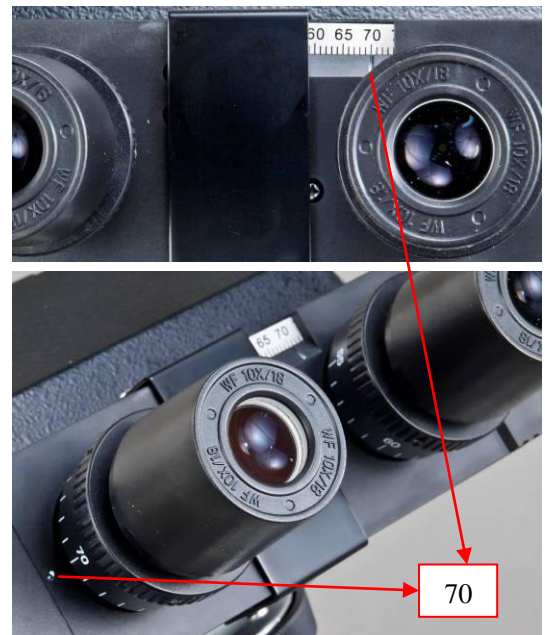

Fig.6
- 2) Rotate the diopter rings on the eyepiece tubes until its numerical value is the same as your interpupillary distance, for example, 70 in the figure (See **Fig. 6**).